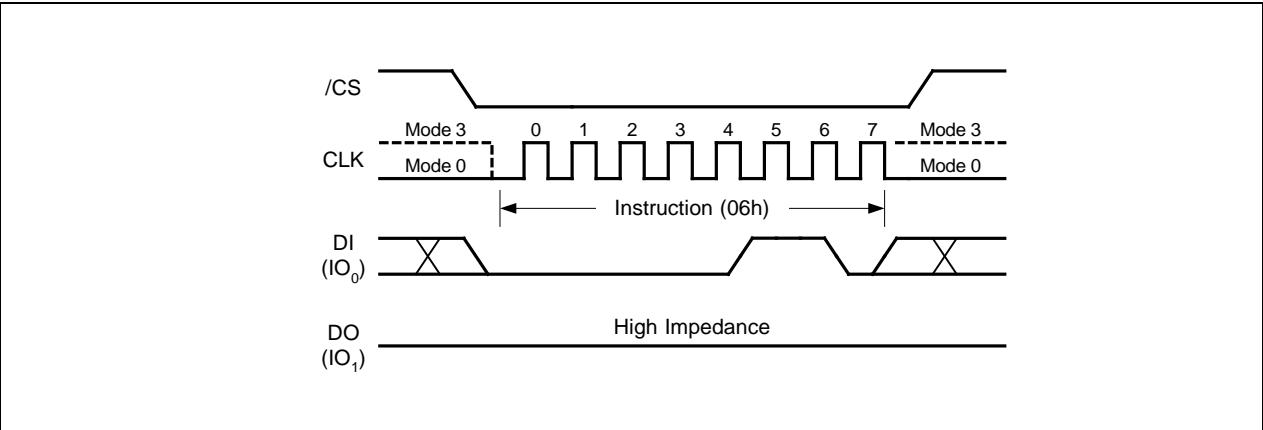

Figure 4. Write Enable Instruction for SPI Mode
The Write Enable instruction (Figure 4) sets the Write Enable Latch (WEL) bit in the Status Register to a 1. The WEL bit must be set prior to every Page Program, Quad Page Program, Sector Erase, Block Erase, Chip Erase, Write Status Register and Erase/Program Security Registers instruction. The Write Enable instruction is entered by driving /CS low, shifting the instruction code "06h" into the Data Input (DI) pin on the rising edge of CLK, and then driving /CS high.